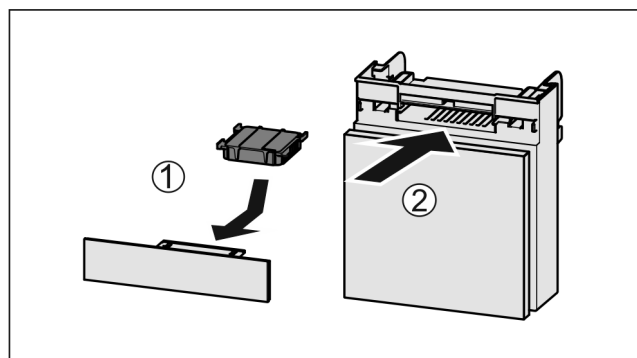

Fig. 134
- ▶ Insert the carbon filter as shown in the diagram Fig. 134 (1).
- ▶ Push the compartment in Fig. 134 (2).